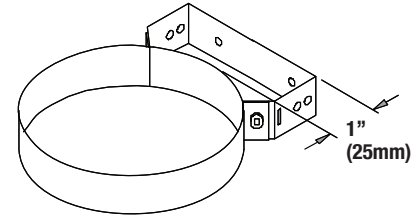

Figure 27 - Wall guide (WG)
1. The wall guide is used as a lateral guide to resist lateral or side load only, it is not designed for carrying the weight of a vertical chimney. It also ensure a minimum clearance of 1" to combustibles for model CIX and 4" for model CAX. See **Figure 27** (wall guide).